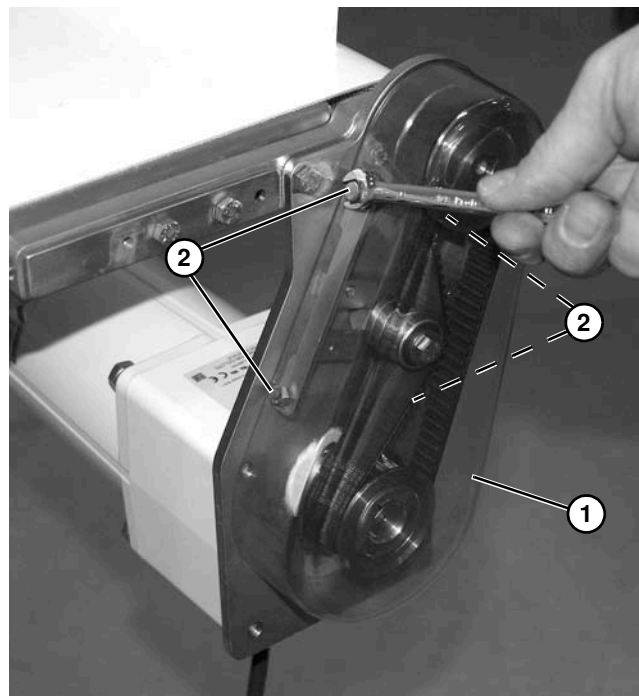

Figure 30
(Figure 30, item 2).*
- Install cover (**Figure 30, item 1**) and tighten four screws (**Figure 30, item 2**).